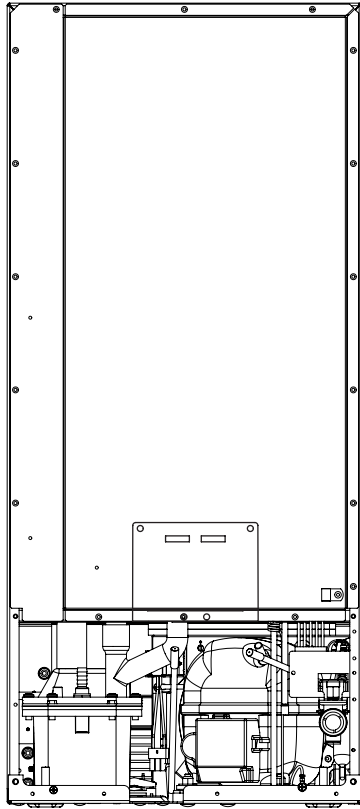

Figure 39
7. Disconnect the water valve's outlet water line to the reservoir and drain the remaining water left in the water line trap area. (See Figure 39 and 39a).
8. Reconnect the water valve outlet water line. (See Figure 39 and 39a).